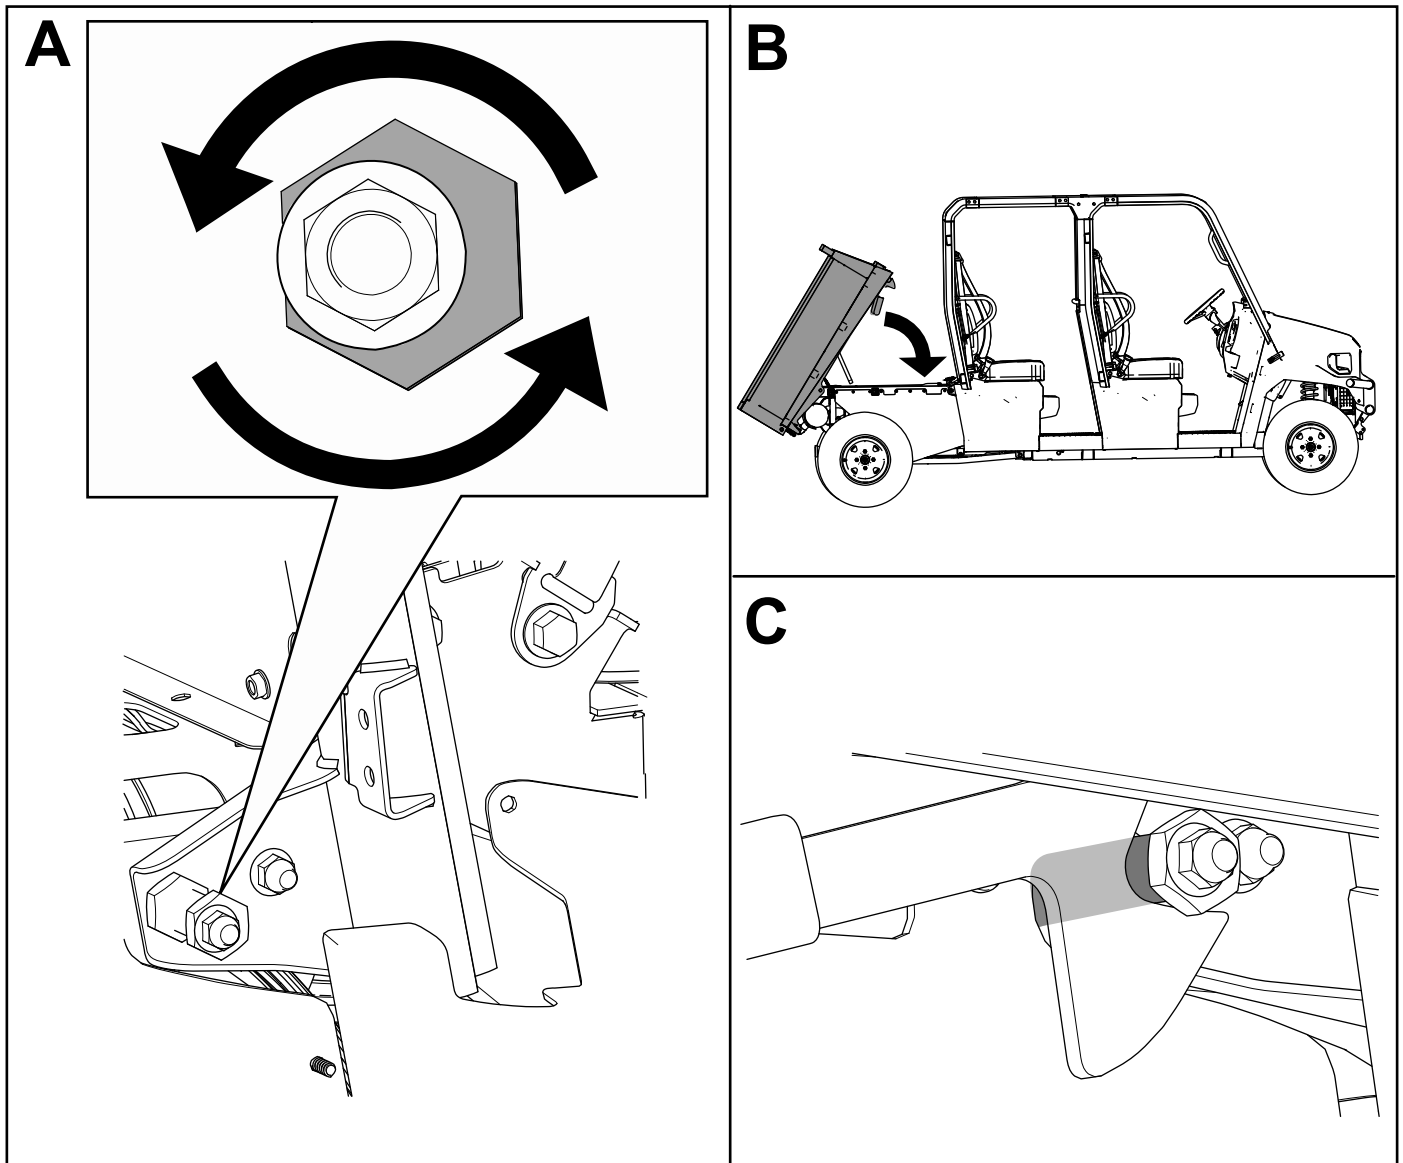

Figure 70
30. Adjust the alignment nut for the cargo bed latch until you close the gap and the cargo bed latches securely (Figure 70).